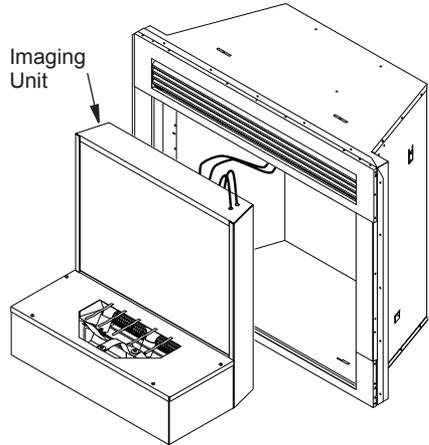

Figure 39 - Removing Imaging Unit
4. Slide entire imaging unit forward and lift out through front opening (see Figure 39, page 23).